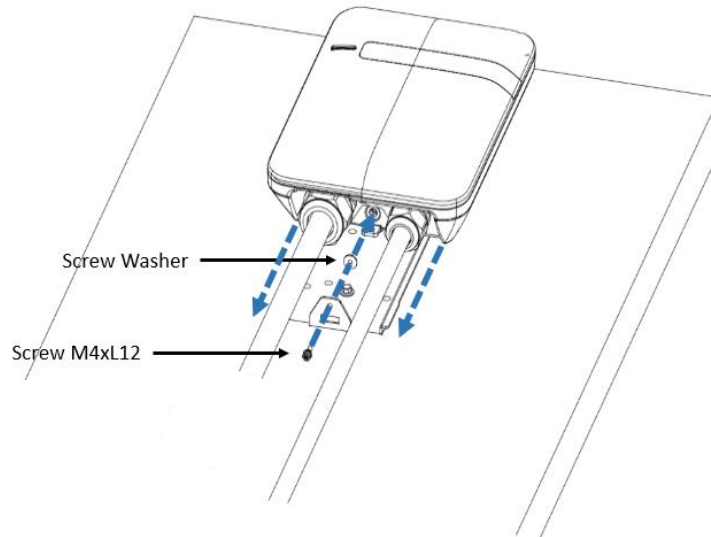

Figure 2-11 Screw locking position
- Mount the charging station onto the mounting bracket and secure the lock screw as shown in Figure 2-11.